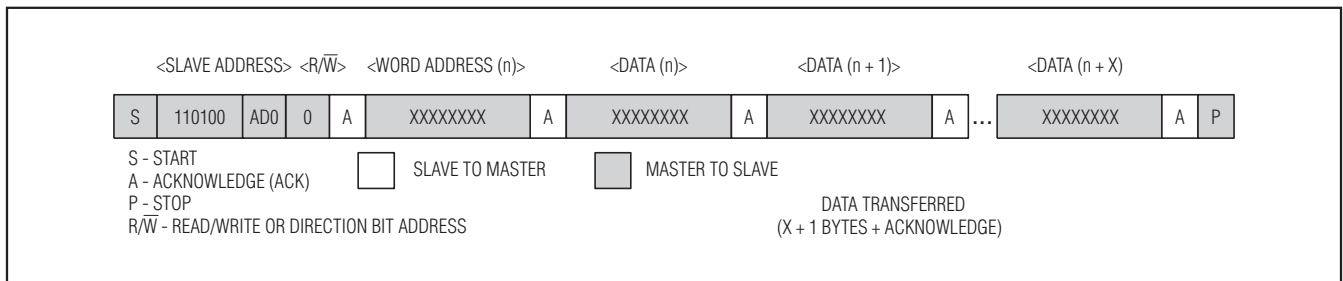

Figure 6. Data Write—Slave Receiver Mode
- 1) Slave receiver mode (DS1372 write mode):** Serial data and clock are received through SDA and SCL. After each byte is received an acknowledge bit is transmitted. START and STOP conditions are recognized as the beginning and end of a serial transfer. Address recognition is performed by hardware after reception of the slave address and direction bit (see Figure 6). The slave address byte is the first byte received after the master generates the START condition. The slave address byte contains the 7-bit DS1372 address, which is 110100 and AD0. Each slave address is followed by the direction bit (R/\overline{W}), which is zero for a write. The bit position signified by A is compared to the value on the AD0 input pin. After receiving and decoding the slave address byte, the device outputs an acknowledge on the SDA line. After the device acknowledges the slave address and write bit, the master transmits a register address to the device. This sets the register pointer on the device. After setting the register address, the master then transmits each byte of data with the DS1372 acknowledging each byte received. The master generates a STOP condition to terminate the data write.